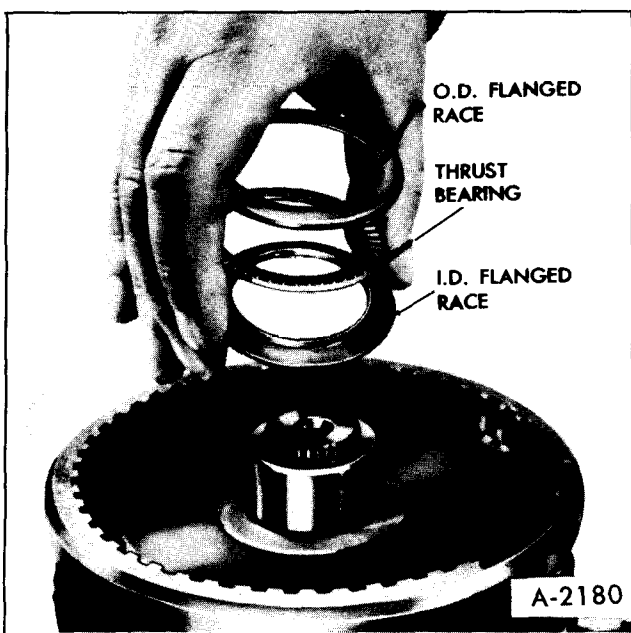

Figure 63—Installing Output Flange Thrust Bearing
5. Install the rear internal gear to output flange thrust races and bearings as follows: (Retain with petrolatum) (figure 63).